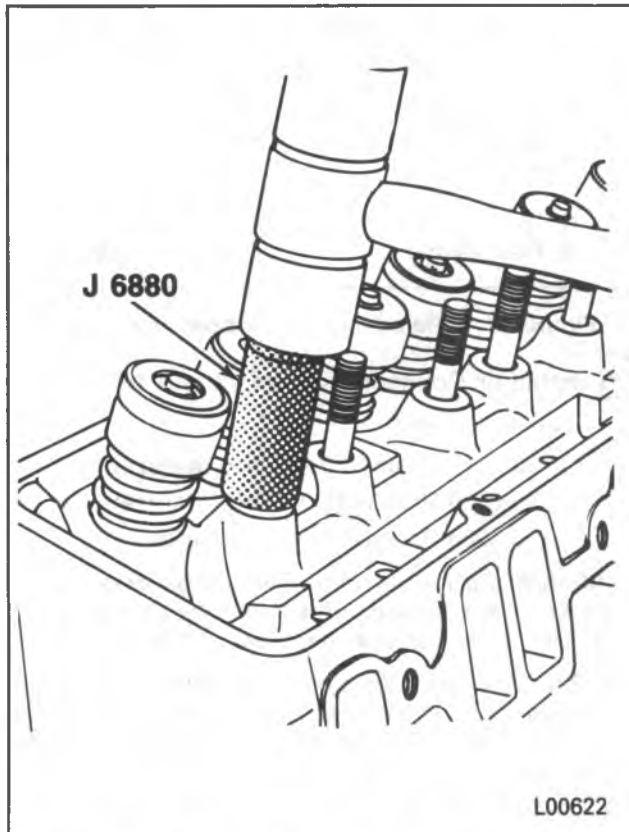

Figure 14 — Installing the Rocker Arm Stud
1. Rocker arm stud. Use J 6880 (figure 14). Stud is installed to proper depth when the tool bottoms on the cylinder head.